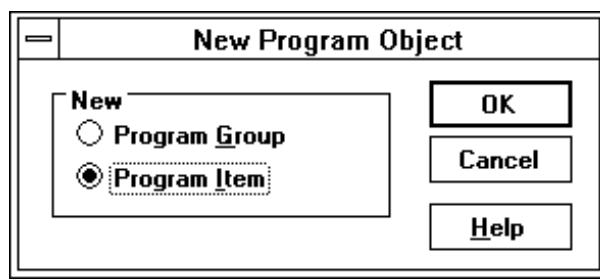

Fig. 44 New Program Object Dialog box
- Select **Program Item** and then click on **OK** (Fig. 44).